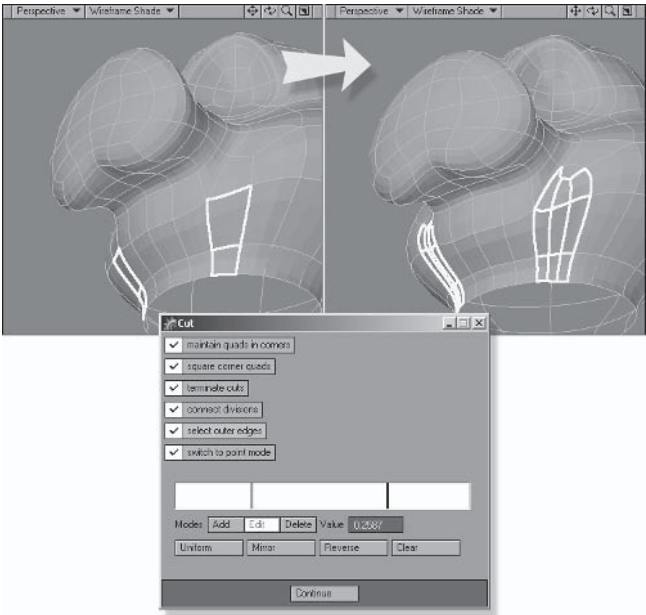

Figure 5.3-24. Cutting three segments creates a quad at the end of the cut instead of a triangle.
- Select the polygons shown in Figure 5.3-24 and **Cut**. We want two new bands, so we need to add another division. In the Cut options panel, change Modes to **Add** and click in an open area of the white display. Change Modes back to **Edit** and move the two divisions, creating three roughly equal segments. Click **Continue** to confirm the cut.